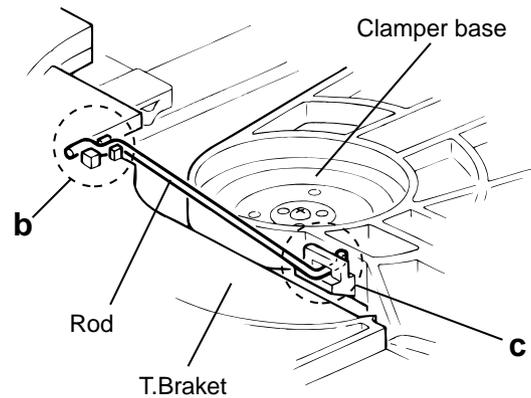

Fig.2
■ Removing the CD tray assembly (See Fig.2~4)
5. From the T.bracket section "b" and clamber base section "c", remove both of the edges fixing the rod(See Fig.2 and 3).